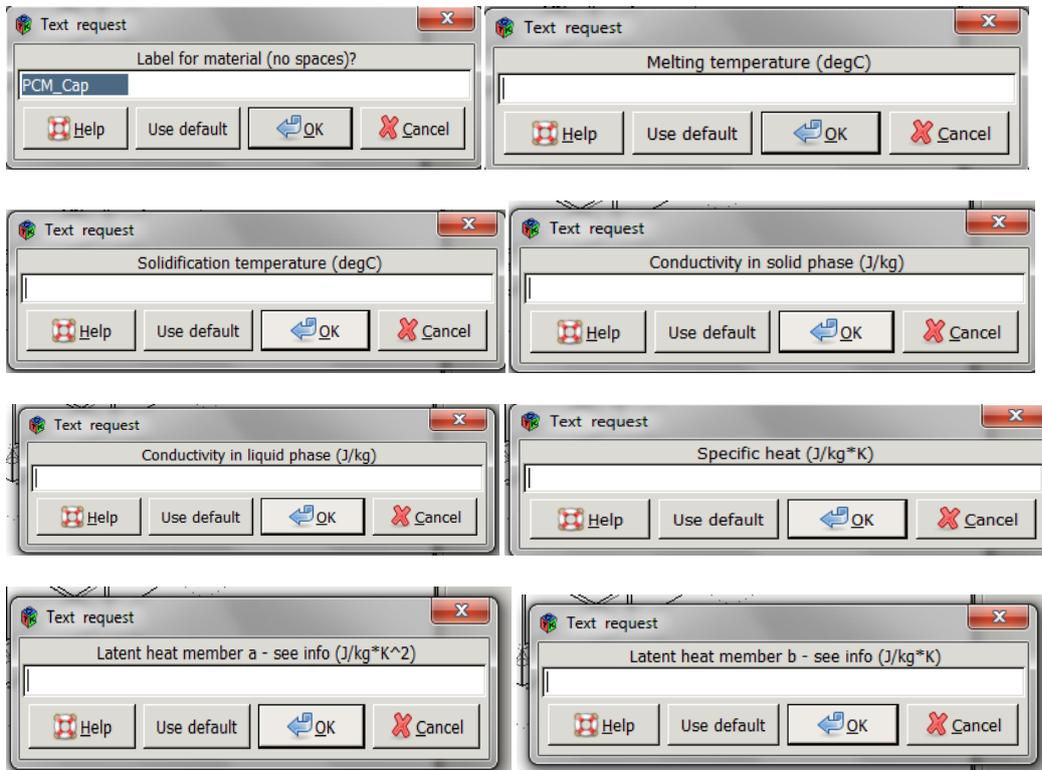

Figure 10
Step 10: The software requires the user to input several numerical values in order to simulate the pcm. There are outlined in the images below. Enter each value asked then click *>ok* after each one. (figure 10).